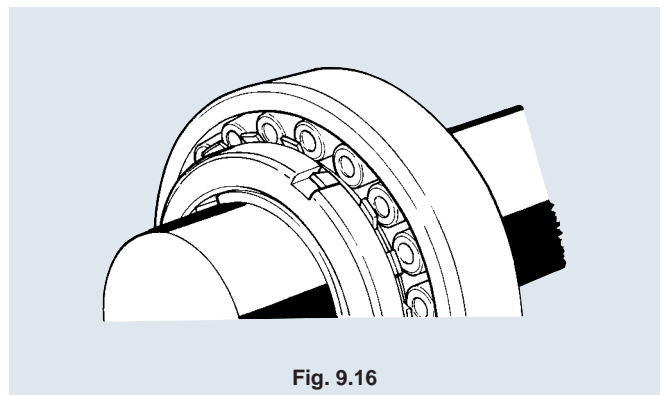

Fig. 9.16
- (8) Make sure the bearing clearance is as specified, then bend one tab on the washer that corresponds with the cutout on the circumference of the nut to maintain the adjustment (**Fig. 9.16**). Do not loosen the nut to allow the cutout to match the tab.